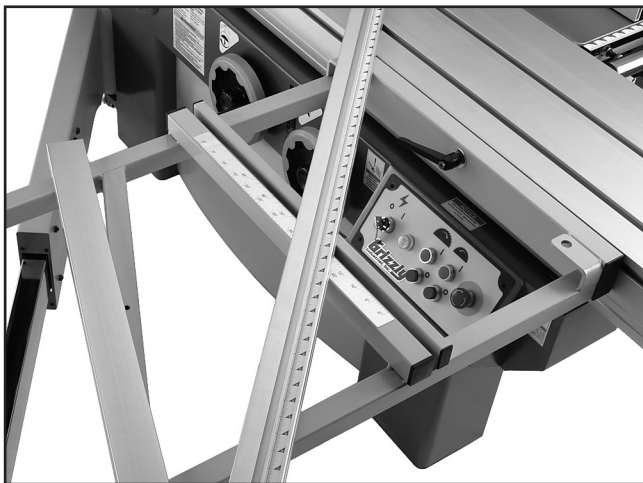
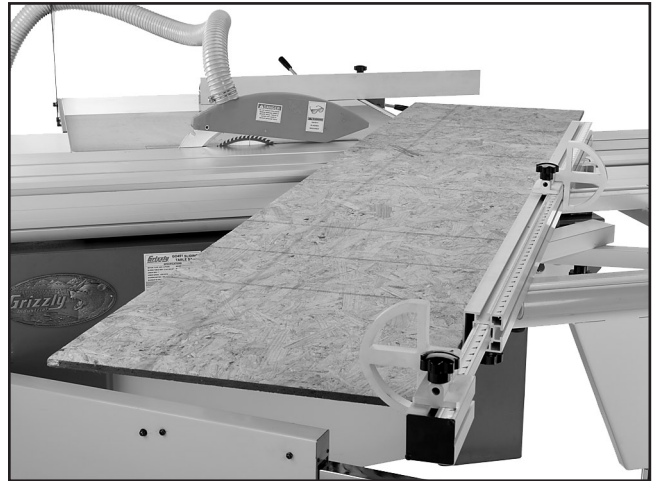

Figure 73. Fence set-up for 90° to 135° cuts.
Figure 74. Example of miter cutting operation.
2. Place the crosscut fence center stud in the center stud hole of the crosscut table. The fence can be installed as shown in **Figure 73** for 90° to 135° cuts, or as shown in **Figure 74** for 0° to 90° cuts.
5. Load the workpiece onto the table saw. The set up should look similar to **Figure 74**.